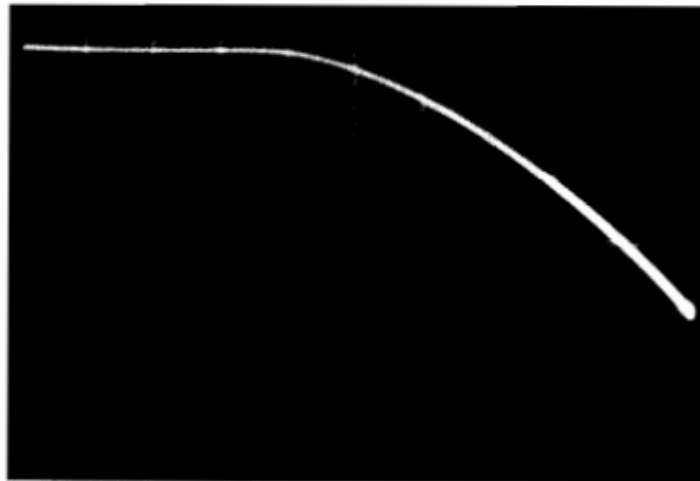

Figure 12-3
- Adjust the frequency of the signal generator to 500Hz and at a signal level sufficient to produce a display similar to that shown in Figure 12-3. If you do not obtain this curve, the oscilloscope leads may be interchanged or there may be wiring error.
1. The point at which the curve of Figure 12-3 intersects the vertical axis is:
2. The point at which the curve of Figure 12-3 intersects the horizontal axis is:
4. From the curve of Figure 12-3, one is able to determine: